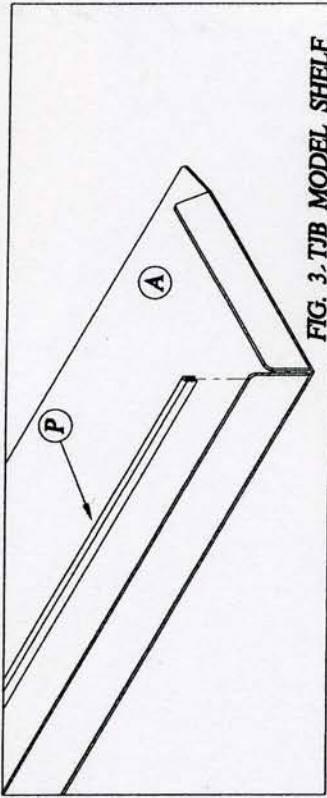

FIG. 3. TJB MODEL SHELF
2. Install trim-lok **P** onto shelf front lip by gently tapping with a rubber or wooden mallet until trim-lok is completely seated as shown in Fig. 3.